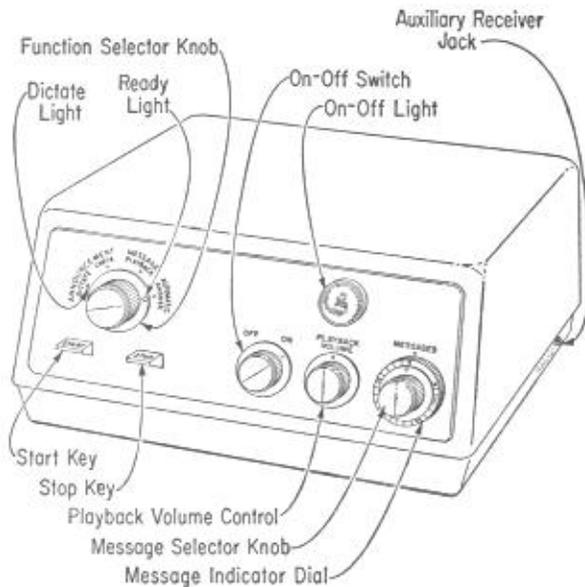

Fig. 1 - 1A and 1AA Answering Set, Exterior
**2.01** The 1A answering set shown in Fig. 1 is used at common battery stations of the following classes of service.
**2.08** All controls for the operation of the 1A answering set are mounted on the front panel (see Fig. 1). These controls are:
**2.09** In addition to the controls mentioned in 2.08, there are three indicating lights on the front panel (see Fig. 1):